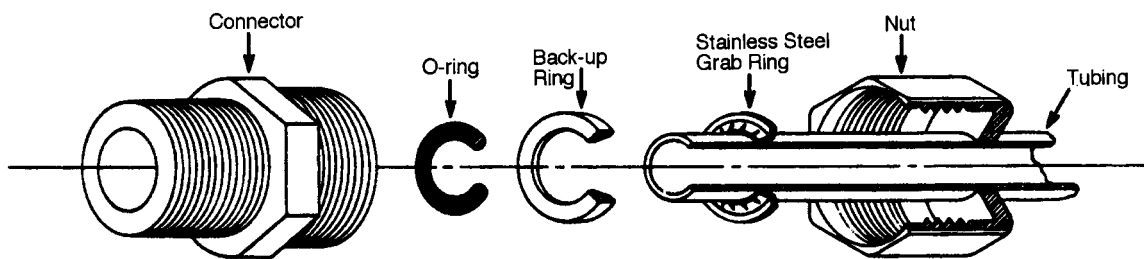

Figure 3 Typical Polypropylene Tubing Adapter Installation
1. Completely disassemble the fitting. Refer to Figure 3 to familiarize yourself with the names of the component parts.
3. Place the grab ring and back-up ring in the hex nut in the order and orientation shown in Figure 3. Thread the nut onto the adapter. **DO NOT** use the o-ring at this time.